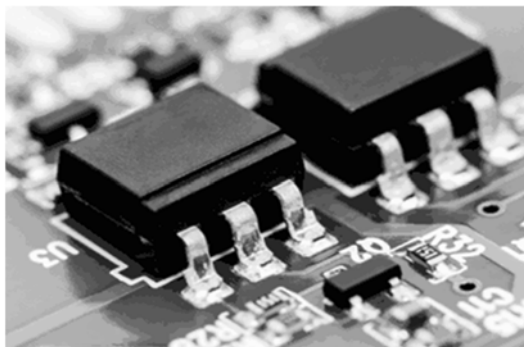

Figure Q3: Electrical components on printed circuit board
- A. Describe (with sketch if necessary) reflow soldering process for bonding and packaging of electrical components to printed circuit boards. (example in Figure Q3).